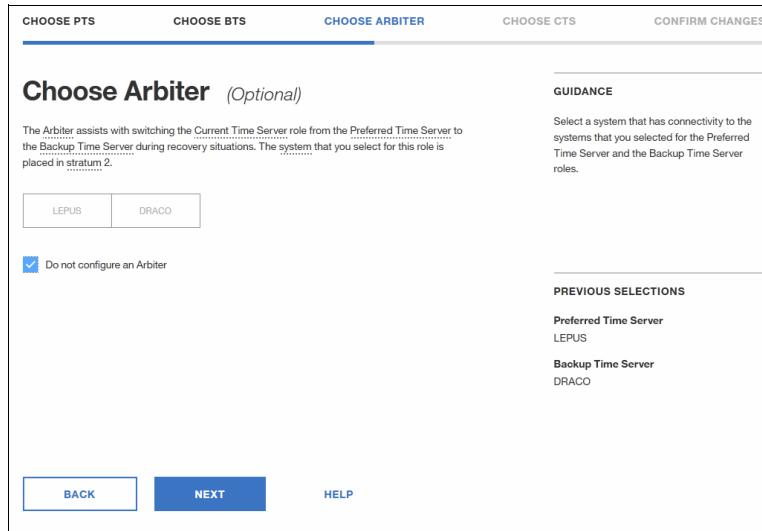

Figure 8-63 Choose Arbiter
4. The **Choose Arbiter** window opens. Because this is a diad (two CPC configuration), we cannot define Arbiter, so select **Do not configure an Arbiter**. Click **NEXT** to continue (Figure 8-63).